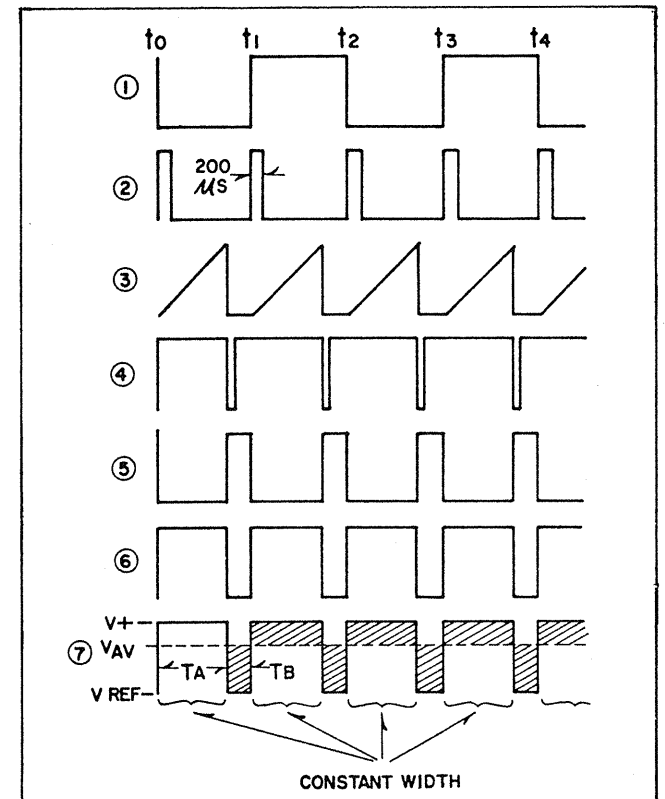

Figure 4. Waveforms at selected points. Numbers correspond to the points so identified on Figure 5.
- 5. ▼ DENOTES LOCATIONS OF WAVEFORMS SHOWN IN FIGURE 4.
IC101C, with R101 and R102, Figure 5, forms a Schmitt trigger which insures that the rising and falling edges of the received squarewave signal are sharp. The output of IC101C is shown on Waveform 1, Figure 4. EXCL-OR gate IC101D, with R103 and C102, forms a transition detector which produces a positive-going pulse, approximately 200 μ s wide, coincident with each transition of the incoming signal. The output of IC101D is shown on Waveform 2, Figure 4. Note there are two pulses for every cycle of telemetering signal.